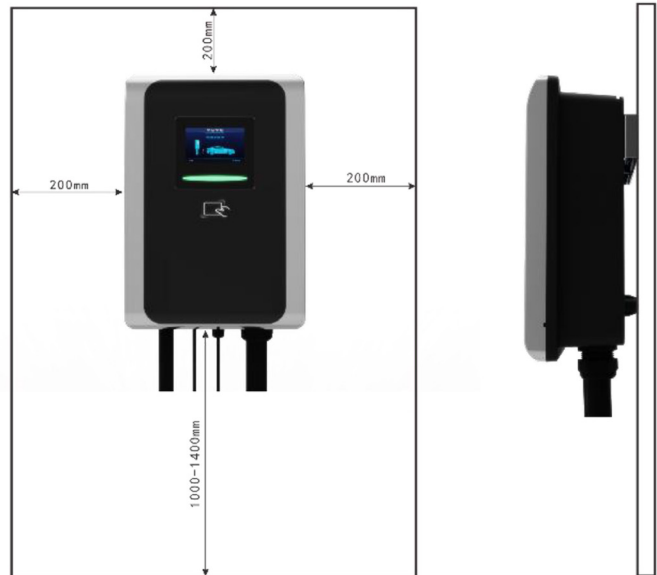

Fig. 5-2 Minimum space requirements for wall mounting
- ▶ Space requirement: When the charger is fixed on the wall, the minimum space requirements are shown in Fig. 5-2.